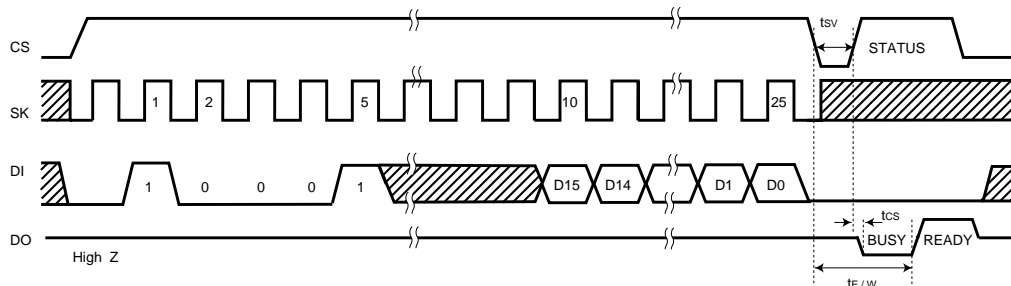

Fig.13 Write all address cycle timing. (WRAL)
## (7) All address write (Fig.13)